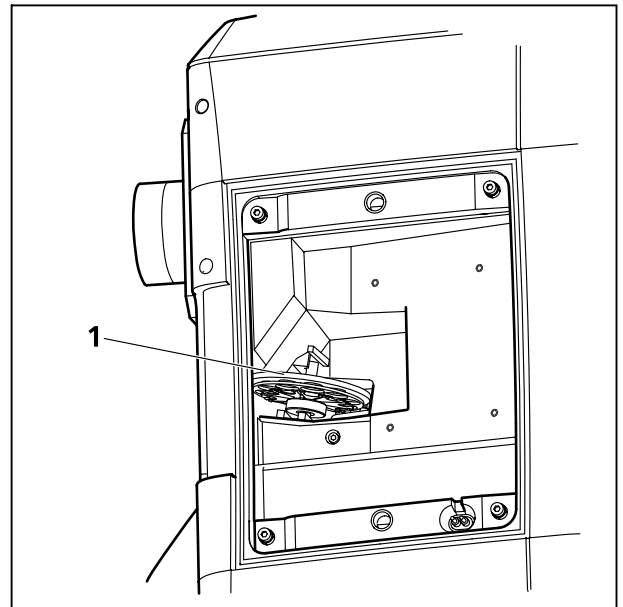

Fig. 7-4 LSM 710 filter wheel
- Turn the filter wheel (Fig. 7-4/1) until the free position points upwards. Do not touch the filters!